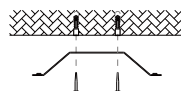

Figure9
- 2.Insert the supplied rubbers into the alignment holes, then fix the mounting plate on the ceiling by supplied screws. (Figure 9)